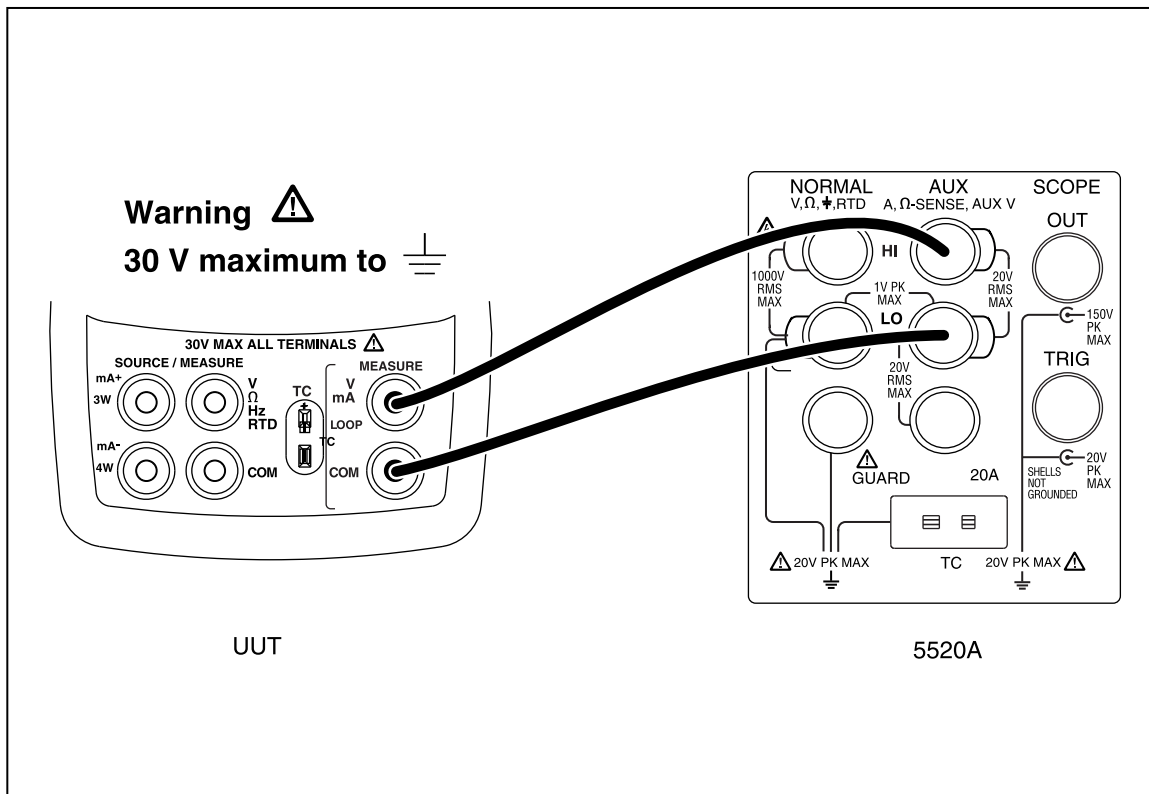

Figure 4. Upper Display mA Test Connections
3. Make the connections shown in Figure 4.